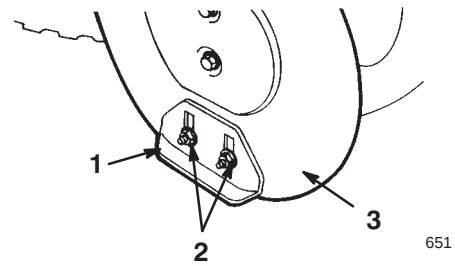

Figure 20
5. Loosen the four flange nuts that secure both skids to the auger side plates (Fig. 20) until the skids slide up and down easily.
10. Tighten the four flange nuts that secure both skids to the auger side plates (Fig. 20).